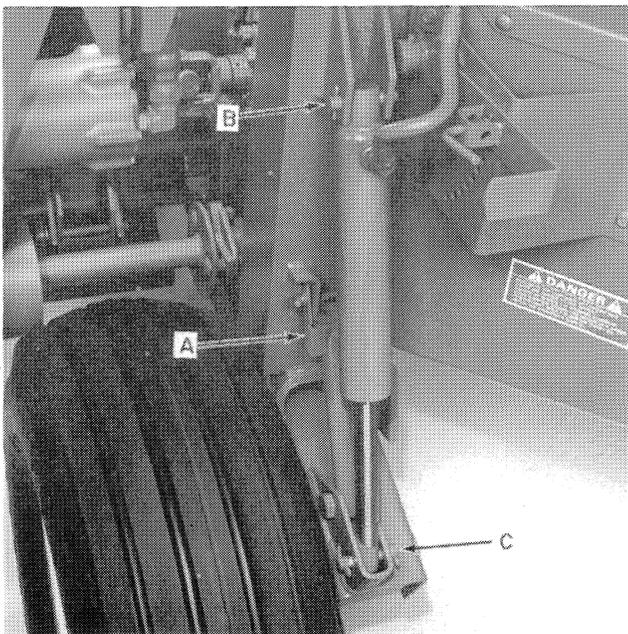

FIGURE 32
4. Remove pins, B and C, Figure 32, to remove lift cylinder. **NOTE: The left side is shown. The right side is similar.**